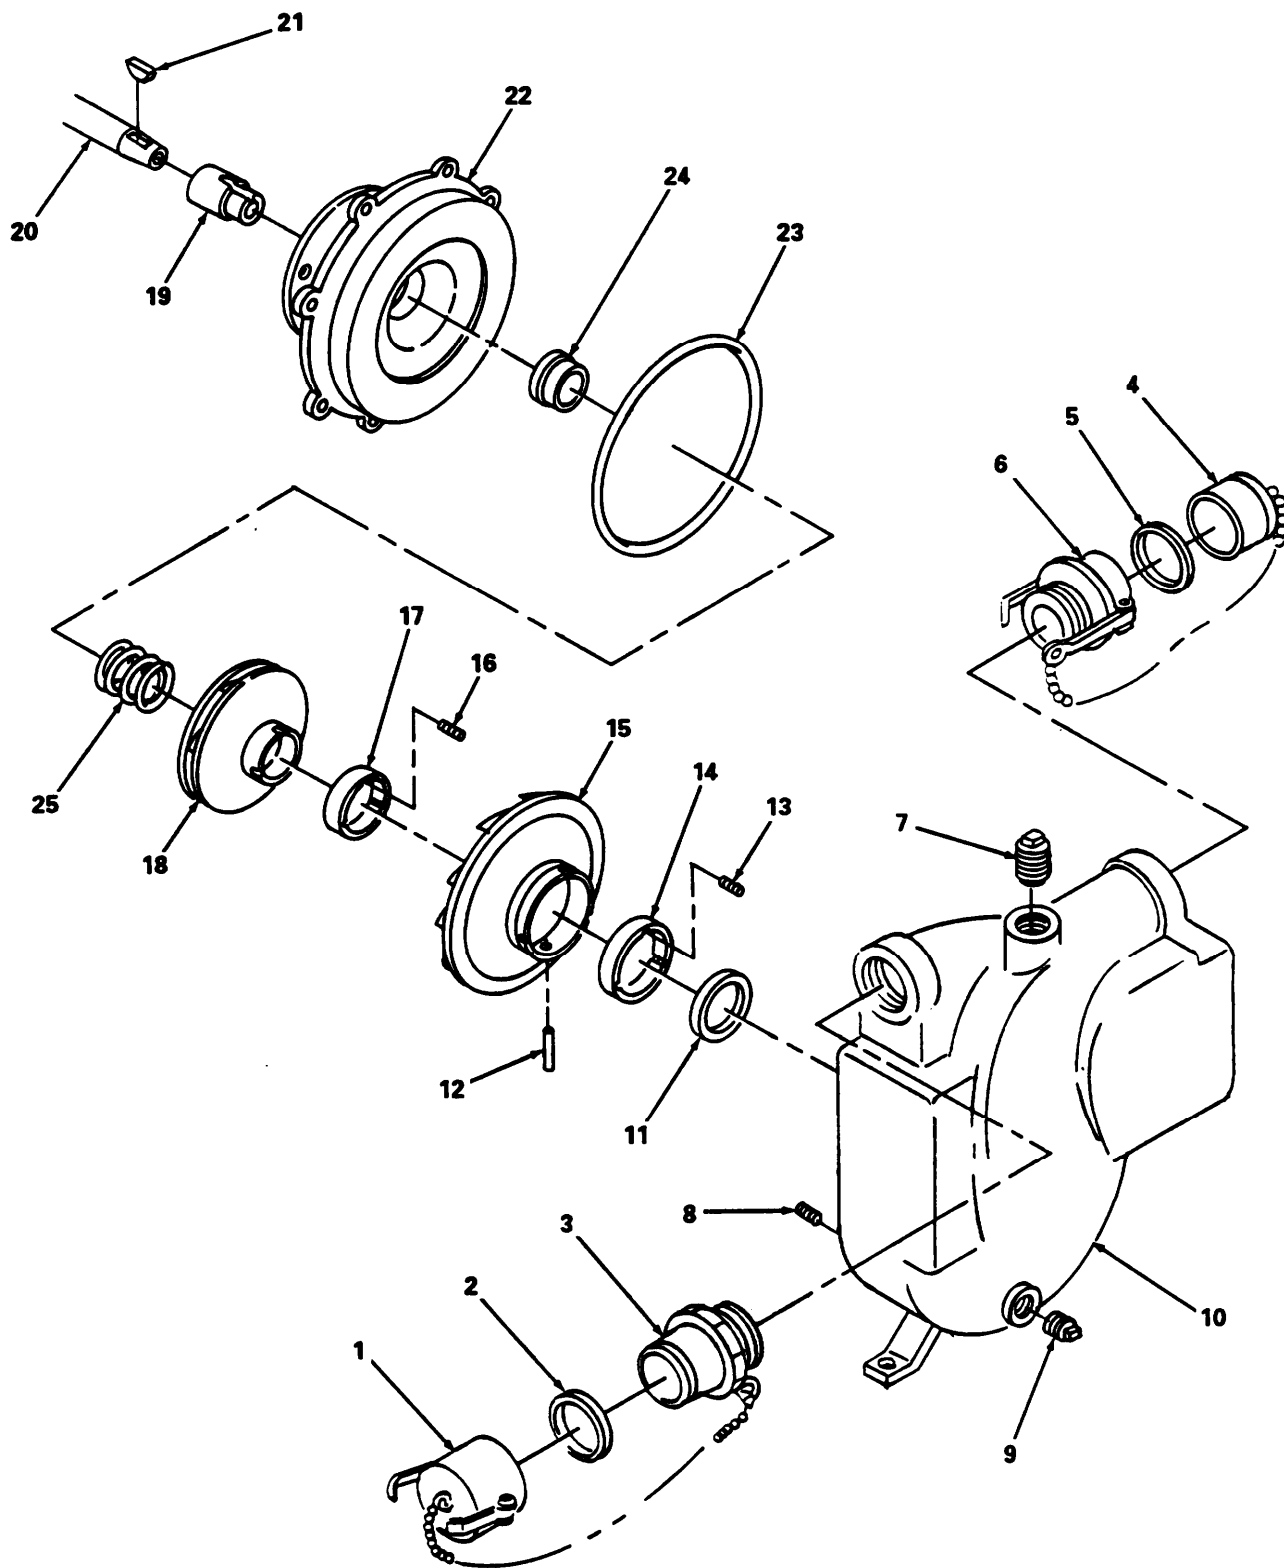

Figure 5-1. Pump Assembly, Disassembly.
a. Disassembly (Figure 5-1)
Pump components have been partially disassembled in the removal operation. Refer to figure 5-1 to complete the disassembly of the pump.